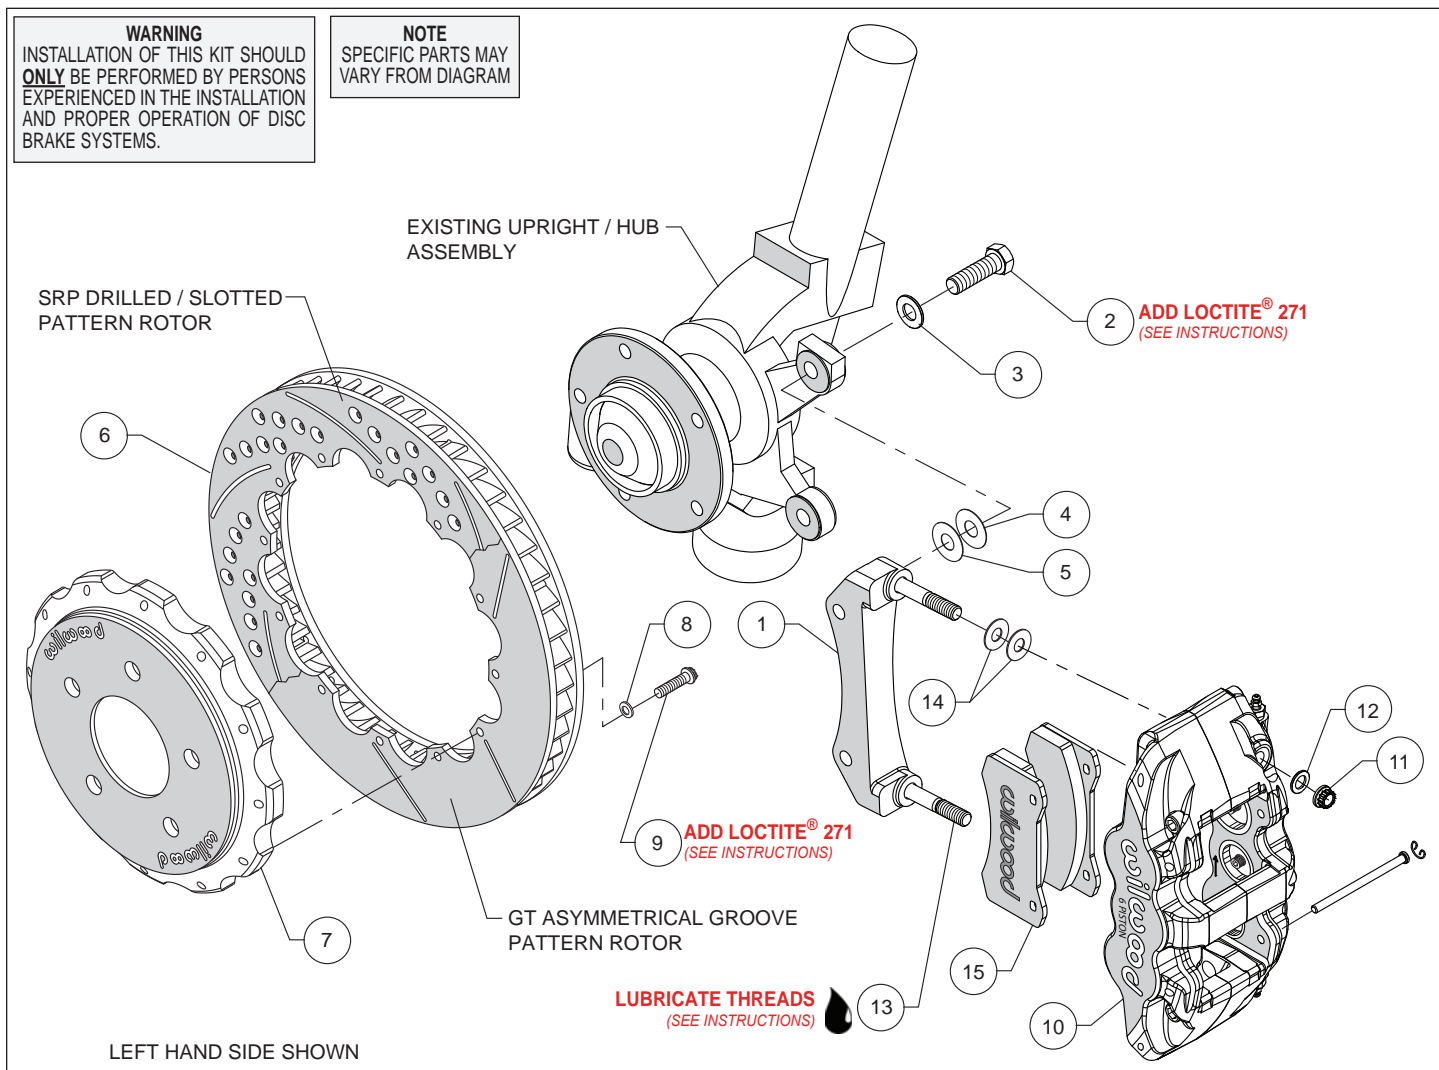
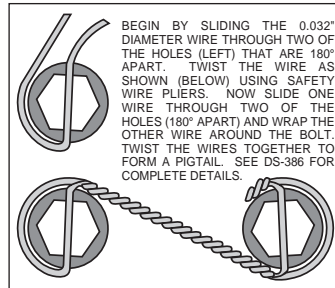

Figure 1. Typical Installation Configuration
Figure 3. Safety Wire Diagram
**Assembly Instructions** (numbers in parenthesis refer to the parts list and Figure 1 on the preceding pages):
- The caliper mount bracket (1) should initially be installed with clean, dry threads on the mounting bolts. Orient the bracket as shown in Figure 1 and Photo 1 and install using mount bolts (2) and washers (3). Initially place one each .033" thick shim (4), and .015" thick shim (5) on each bolt between the bracket and upright, Figure 1. Temporarily tighten the mounting bolts. **NOTE:** The bracket must fit squarely against the mount bosses on the upright. Inspect for interference from casting irregularities, machining ridges, burrs, etc. Later, after the caliper alignment has been checked, the mount bolts will be secured using red *Loctite*® 271.
- Orient the rotor (6) and the hat (7) as shown in Figure 1 and Photo 2. Attach rotor to hat using bolts (9) and washers (8). Using an alternating sequence, apply red *Loctite*® 271 to the threads and torque bolts to 155 in-lb. For an added measure of security, the bolts may be safety wired using standard 0.032 inch diameter stainless steel safety wire as shown in Figure 3. Please refer to Wilwood's data sheet DS-386 (available at [www.wilwood.com/Pdf/DataSheets/ds386.pdf](http://www.wilwood.com/Pdf/DataSheets/ds386.pdf)) for complete safety wire installation instructions.
- **NOTE:** This kit contains distinct right and left hand calipers that must be mounted in a specific direction, as described below. Lubricate the caliper mounting studs (13) with lightweight oil. Initially place two .030" thick shims (14) on each stud as shown in Figure 1 and Photo 4. Mount the caliper (10) onto the bracket (1) using lock nuts (11) and washers (12), Figure 1. Ensure that the caliper is mounted so that the largest pistons are at the rotor exit end of the caliper, in relation to the direction of rotor rotation. Temporarily tighten the lock nuts and view the rotor through the top opening of the caliper. The rotor should be centered in the caliper, Photo 5. If not, adjust by adding or subtracting shims (4 and/or 5) between the bracket and the upright. Always use the same amount of shims on each of the two mounting bolts. Once the caliper alignment is correct, remove the bracket mounting bolts one at a time, apply red *Loctite*® 271 to the threads, and torque to 60 ft-lb.
- Remove the two pad retaining pins from the caliper (10) by carefully popping out the pin retaining clips and sliding out the pins. Insert the brake pads (15) into the caliper from the bottom, Figure 1 and Photo 6. With the friction material facing the rotor, secure the brake pads in place with the pad retaining pins and clips, Photo 7. Reinstall the caliper onto the caliper mounting bracket and temporarily tighten the lock nuts. Check that the top of the brake pad is flush with the outside diameter of the rotor, Photo 8. If not, adjust by adding or subtracting shims (14) between the caliper and the bracket. After the caliper pad height is set, torque the caliper lock nuts (11) to 47 ft-lb.